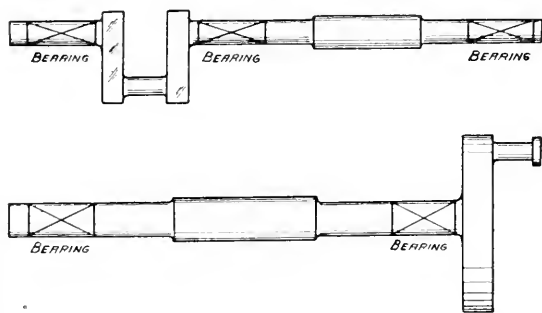

FIG. 1. CENTER CRANK SHAFT (above), SIDE CRANK SHAFT (below).
**S**HAFTS of reciprocating engines are of two general types, namely, side-crank shafts and center-crank shafts. As the name implies, a side-crank shaft (Fig. 1)